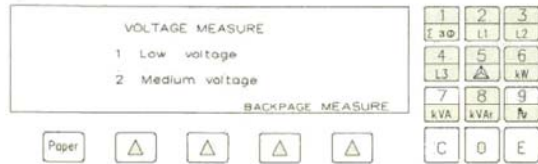

Fig. 3.20
-The next display page (see Fig.3.20) allows selection of the voltage level: Press [1] for systems at less than 600 Volts (L. V.) Press [2] for systems at more than 600 Volts (M. v:)